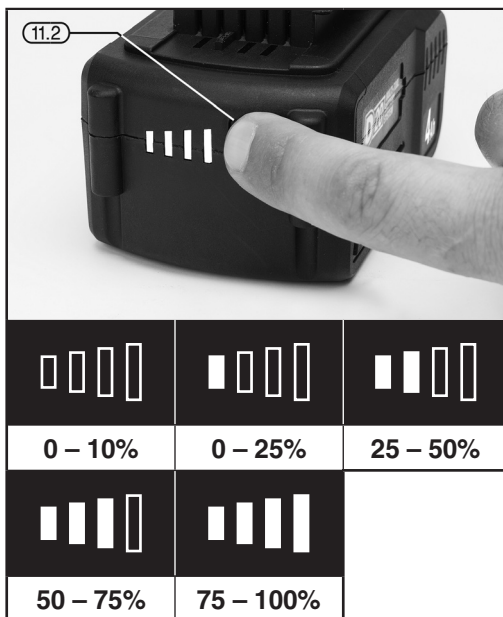

FIG. 8
6.9 BATTERY PACK CHARGE STATUS – FIG.8